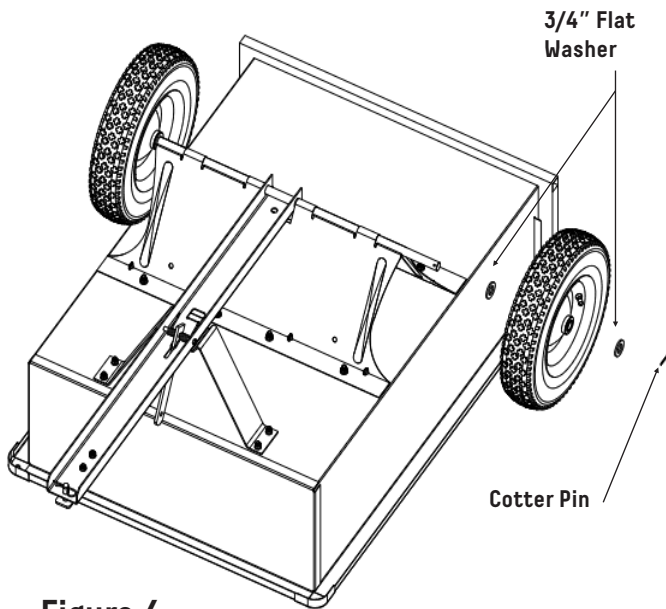

Figure 4
4. Place one 3/4" Flat Washer on each side of Axle next to Undercarriage. Next place Wheel onto Axle, add one 3/4" Flat Washer on outside of wheel. Secure Wheel in place by inserting Cotter Pin through hole in the end of Axle and spreading the legs of the Cotter Pin outward. Repeat the Wheel attachment step for the other wheel. See Figure 4.